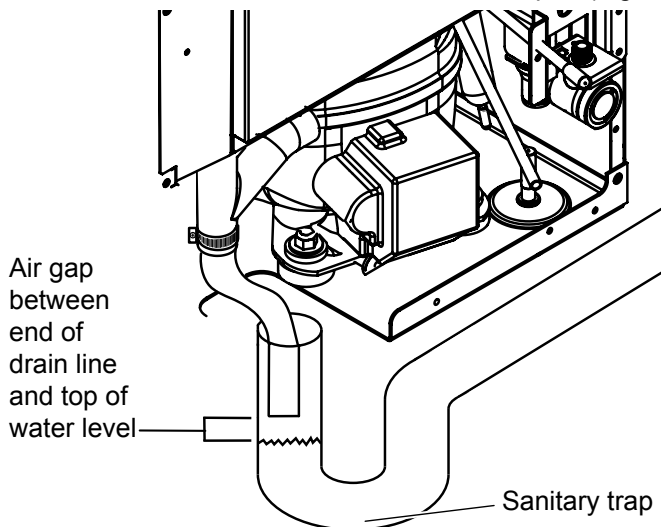

Figure 1: Example of an open drain.
- c. Your drain line is plumbed into an open drain (Figure1).